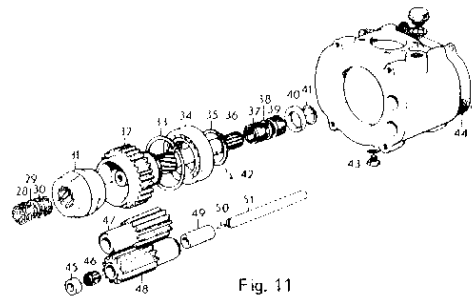

Fig. 11
1. Fit the circlip (33, Fig. 11) in the housing.
2. Press the bearing (34) into the housing with drift 884500.
4. Press the gear wheel (32) in the bearing (34) with drift 884263. NOTE! Counterhold 884488 must be placed against the bearing inner race. Make sure that the gear wheel teeth engage with the teeth on the planetary gears.
5. Secure the gear wheel with the lock ring (35).
### Assembling the front housing and intermediate housing MS (Fig. 11 and 13)